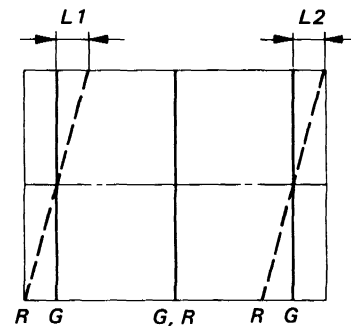

Fig. 3-60
- (10) Adjust RV5510 (H KEYS (R)) so that L1 and L2 are equal as shown in Fig. 3-60.